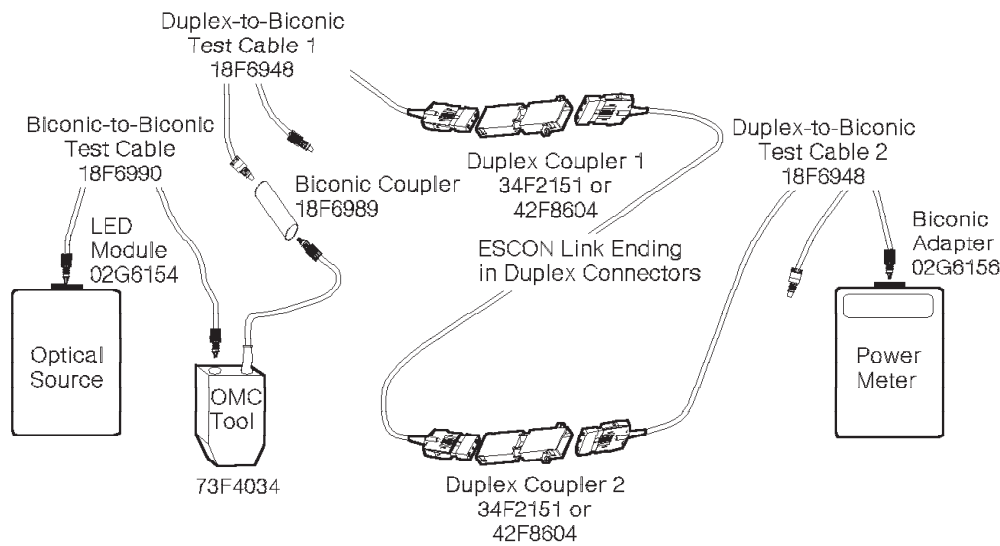

Figure 3-11. Connecting the Test Equipment to a Multimode Link
6. Attach the test equipment to the link as follows (see Figure 3-11 on page 3-31):